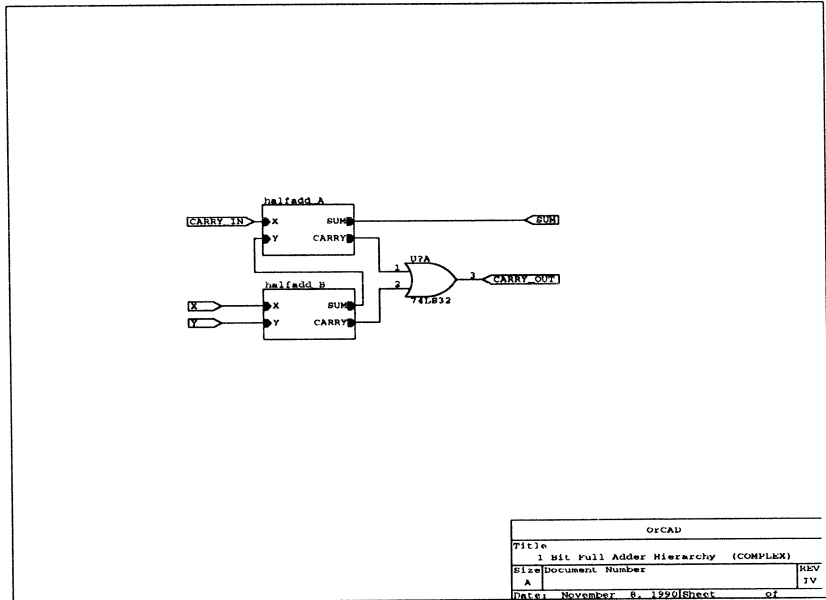

Figure 8-9. FULL ADDER worksheet.
5. Click the **Draft** button and then select **Execute**. The 4BIT ADDER root worksheet displays (see figure 8-9).
2. Place the pointer inside one of the sheet symbols and select **Enter**. **Draft** displays the worksheet referenced by the selected sheet symbol. Figure 8-9 shows the full adder worksheet.